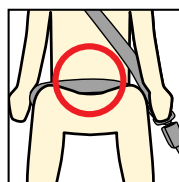

Figure 4
Step 4: Is the lap belt sitting low across the hips touching the thighs? (refer Figure 4).